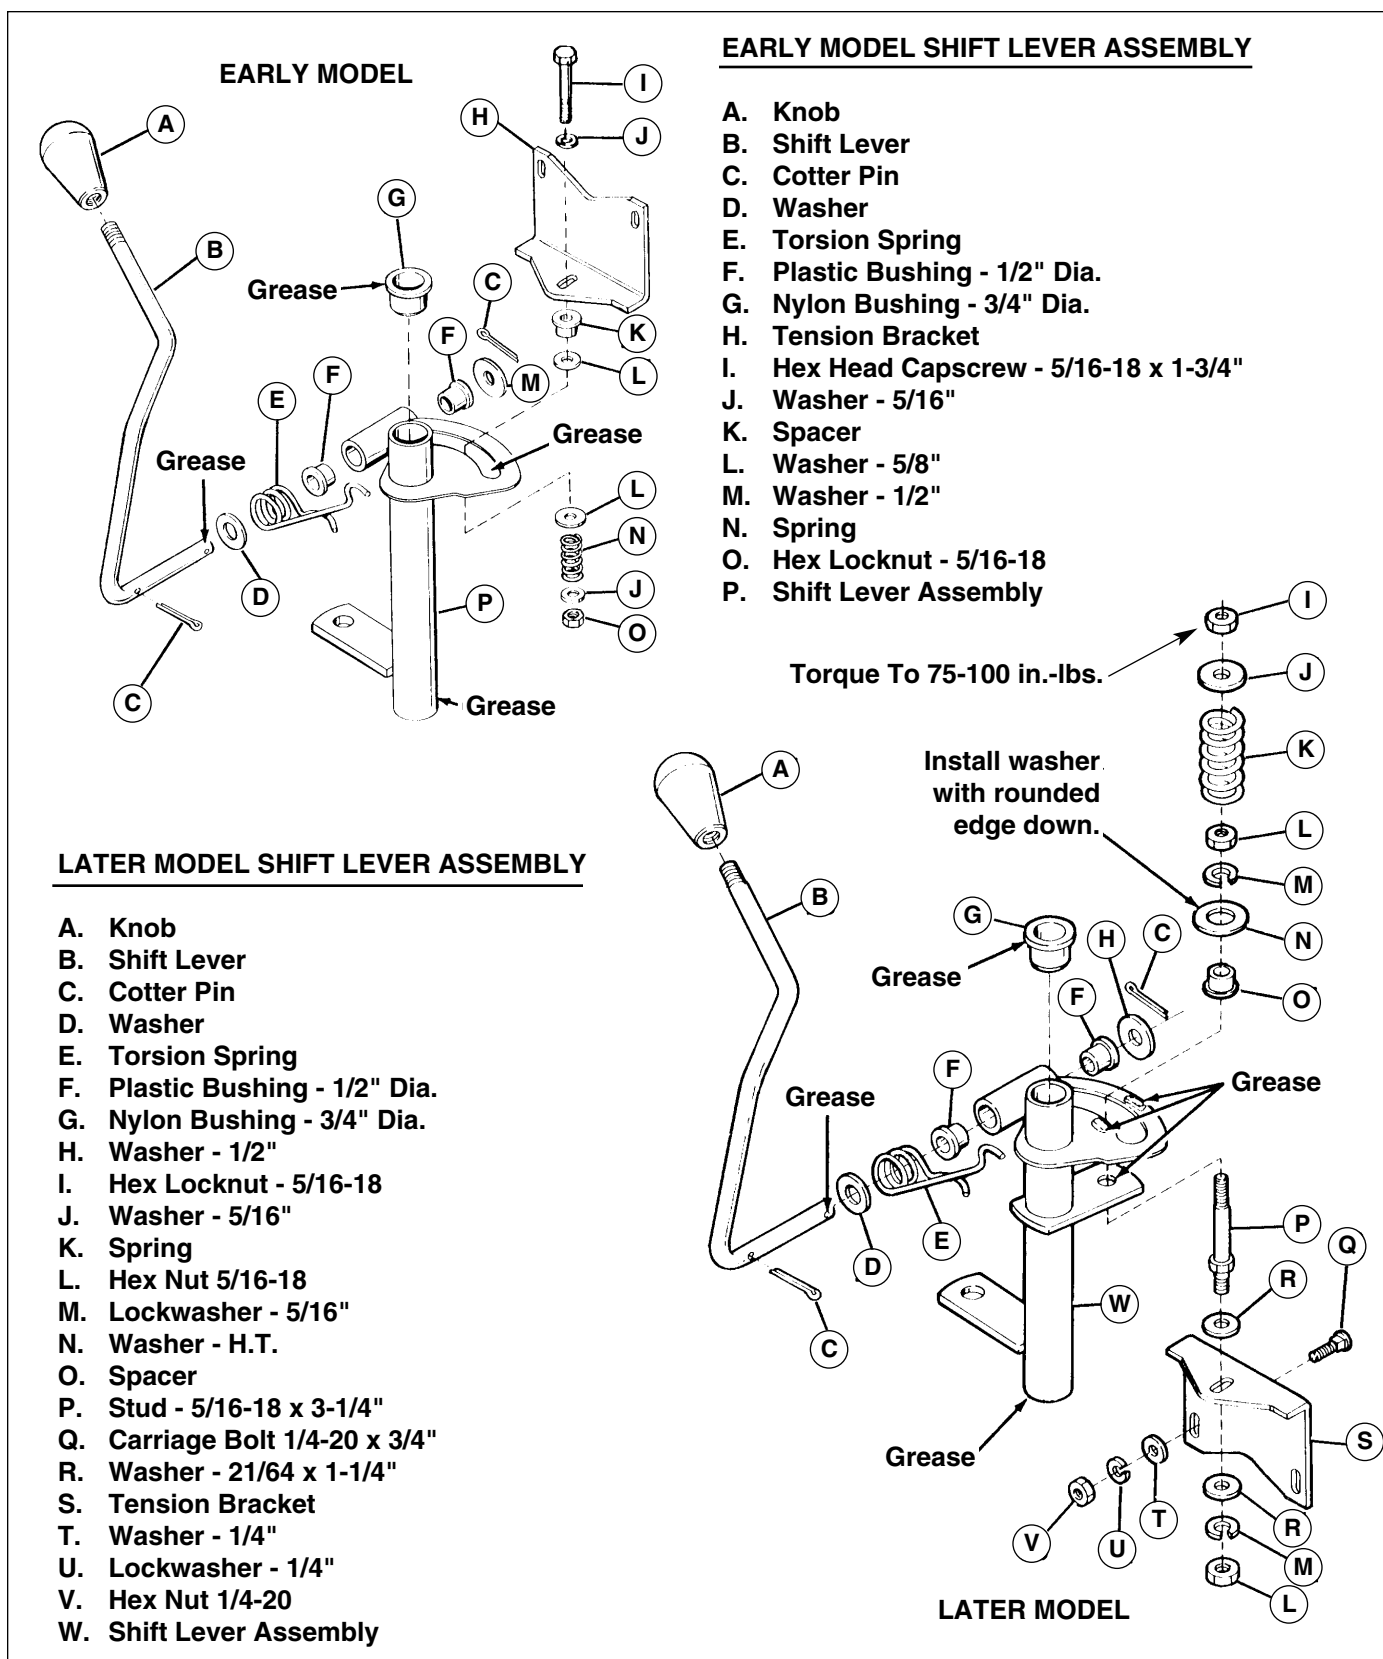

Figure B-3. Typical Shift Lever Assemblies
Tension on the shift lever may be increased or decreased by adjusting the tension on the shift lever compression spring (K, Figure B-3 Later Model Shift Lever Assembly). The correct tension for proper shift lever operation should be obtained when the adjustment locknut (I, Figure B-3) is torqued to 75 - 100 in./lbs.
1. Release tension on the shift lever by disengaging the torsion spring's (E, Figure B-3) hooked end from the shift lever shaft. (Figure B-10)
6. The shift lever assembly may now be removed from the unit and inspected for wear or damage. Replace parts as required. Refer to Figure B-3 for proper assembly sequence of parts.
**NOTE:** On later models with adjustable tension, attach tension bracket (S, Figure B-3) against lower dash before tightening hex nut (L) on stud (P). Adjust tension on adjustment nut (I) to 75 - 100 in./lbs.